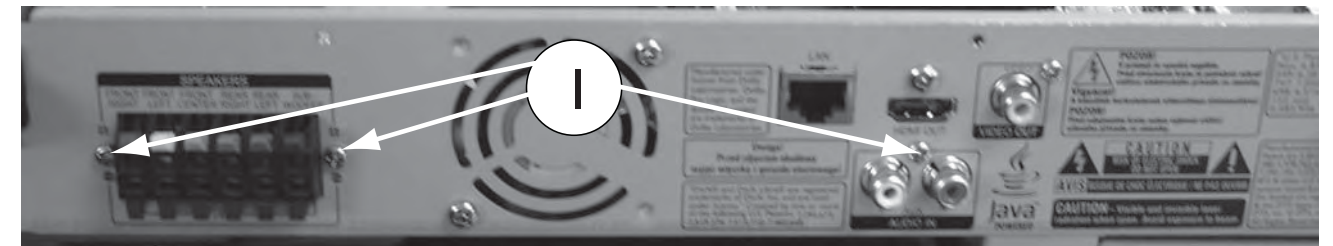

Figure 15
- 2) Loosen 3 screws "I" at the back panel as shown in figure 15.